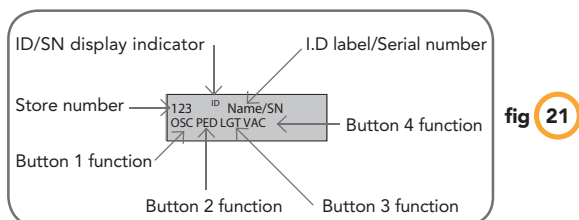

fig 21
The GDO-10 can store up to five hundred and eleven (511) transmitters in its memory. Each transmitter can be allocated an alpha-numeric ID label up to eleven (11) characters in length and each button can be assigned to one of several control functions. The settings for a transmitter are represented in (Fig. 21). It shows the transmitter's store number, ID label or serial number and the functions assigned to each of its four buttons. To toggle between ID/SN display, press UP/DOWN with the cursor on the ID/SN indicator. The procedures below code, delete, replace, edit and copy transmitter records.